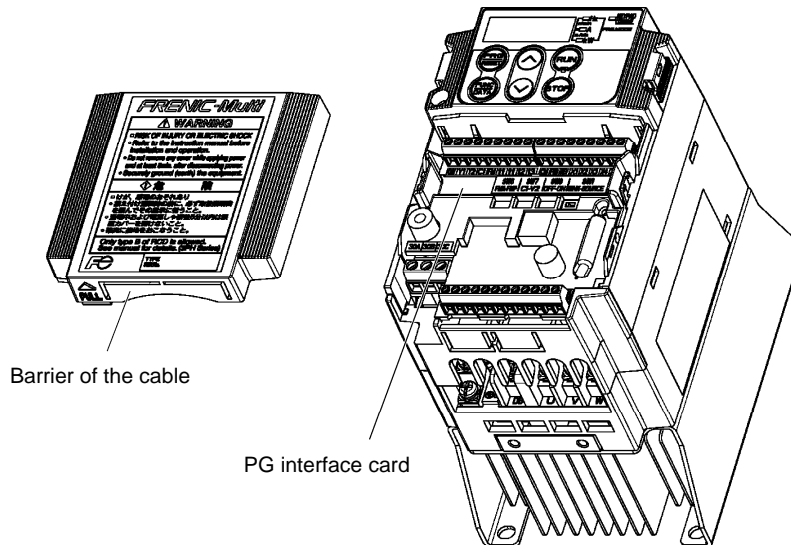

Figure 1.3
(4) For inverters of 1 HP or below: Before reinstalling the terminal cover, cut off the barrier (see Figure 1.3) of the terminal cover using nippers or the like
(5) Reinstall the terminal cover, taking care not to pinch control signal lines.